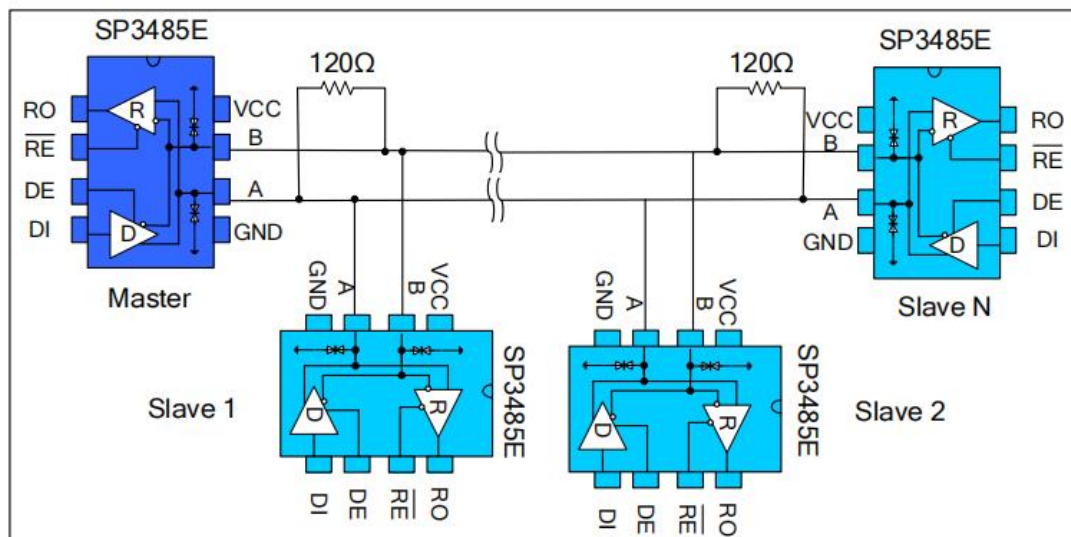

Figure 9 Bus type RS485 half duplex communication
4. 1Bus Networking: SP3485E RS485 transceiver is designed for bidirectional data communication on multi-point bus transmission line. Figure 9 shows a typical network application circuit. These devices can also be used as linear repeaters with cables longer than 4000 feet. In order to reduce reflection, terminal matching should be carried out at both ends of the transmission line with its characteristic impedance, and the length of branch lines outside the main line should be as short as possible